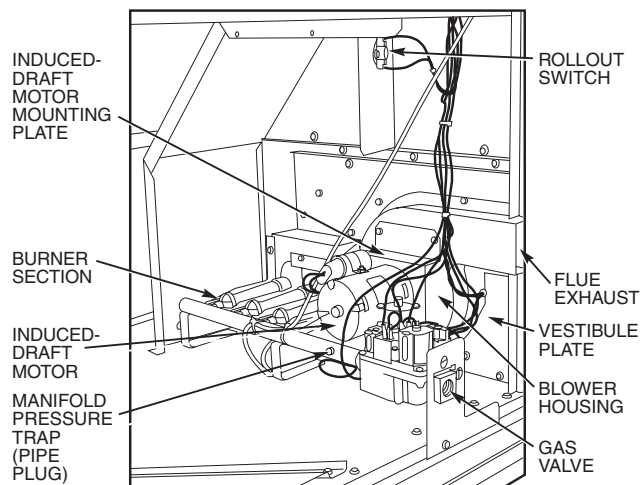

Fig. 44 — Burner Section Details
2. Remove pipe plug on manifold (see Fig. 44) then connect manometer at this point. Turn on gas to unit.
2. Remove pipe plug on manifold (see Fig. 44), then connect manometer at this point.